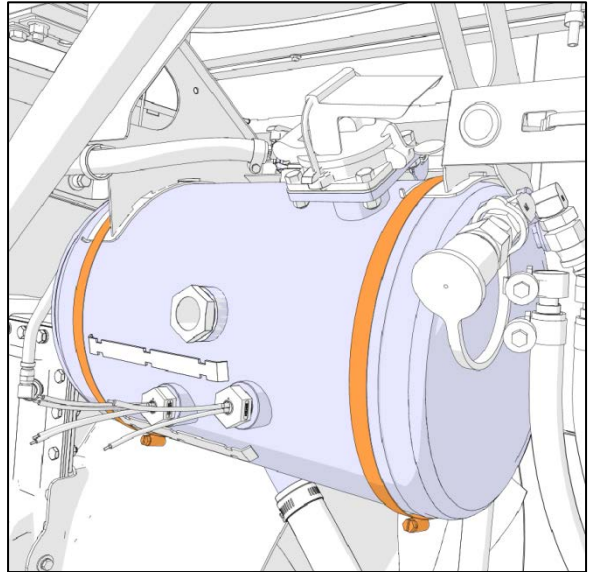

Figure 10
8. Remove surge tank existing collars (Figure 10).